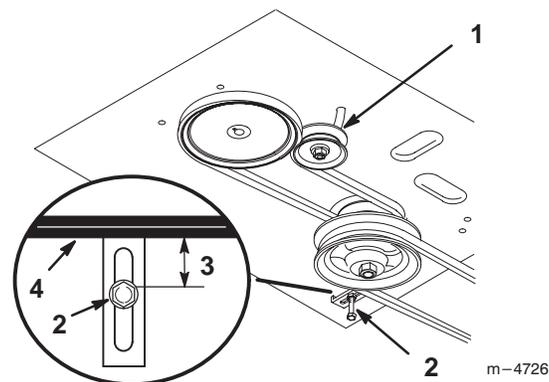

Figure 44
5. Install new belt around engine and drive pulleys (Fig. 44).
6. Slide idler pulley in engine frame to tension traction belt (Fig. 44).
8. Check the belt guide under the engine frame for proper adjustment (Fig. 44). The distance between the belt guide and mower belt should be 1-3/8" (35mm). Adjust as necessary. The disengaged belt should not drag or fall off pulley when guides are properly adjusted.
10. Check the belt guide under the engine frame for proper adjustment (Fig. 44). The distance between the belt guide and mower belt should be 1-3/8" (35mm). Adjust as necessary. The disengaged belt should not drag or fall off pulley when guides are properly adjusted.